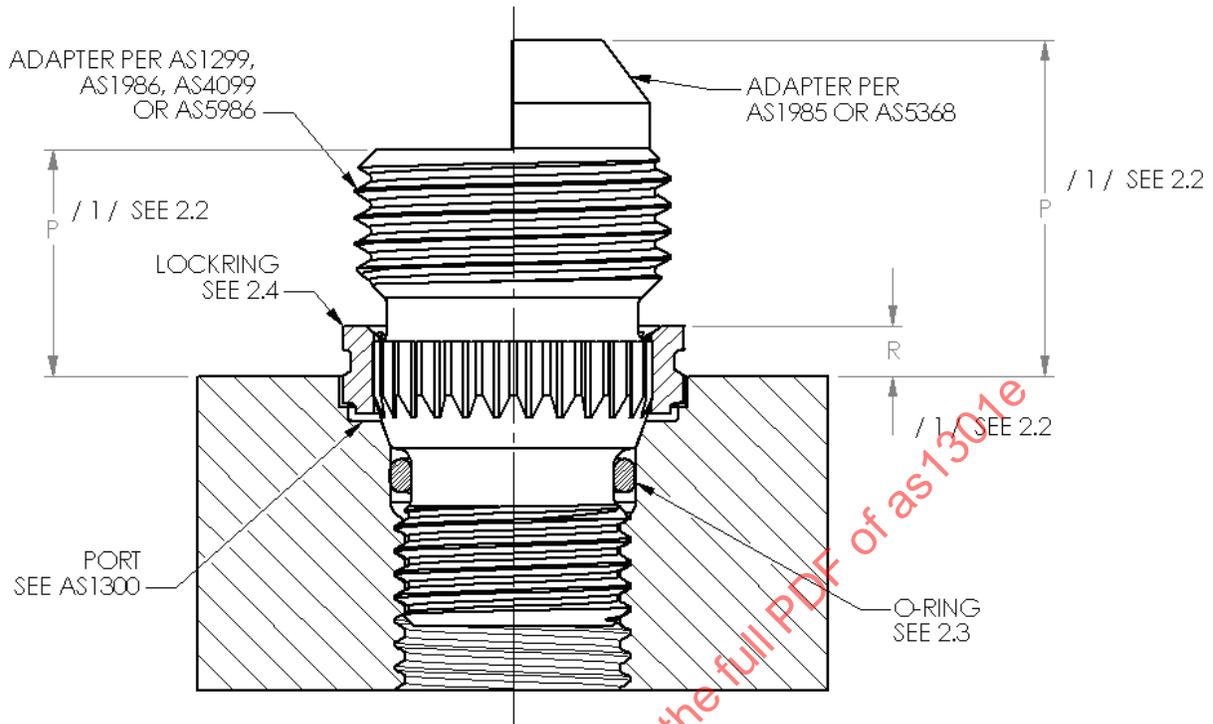

FIGURE 1 - INSTALLED ADAPTER
- 3.2 Adapters per AS1299, AS1985, AS1986, AS4099, AS5368 and AS5986 installed per this document into ports per AS1300 shall have a stand-off per dimension "P" in Figure 1 and Table 2.